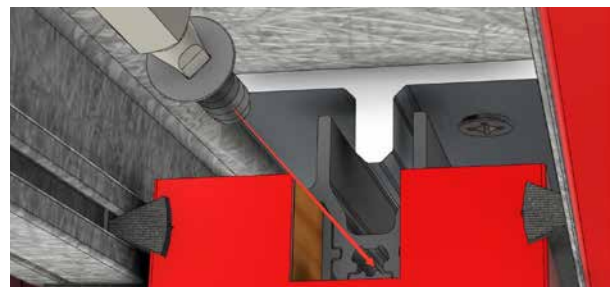

Fig A9
- Insert the structural rail and slide it into place until you feel a definitive stop. The seated position is approximately 3/4" inset from the edge of the panel, See Fig. A9.
- Fasten the rail into the base using the black #10 x 3/4" Flathead screw from the installation kit as shown in Figure A9.